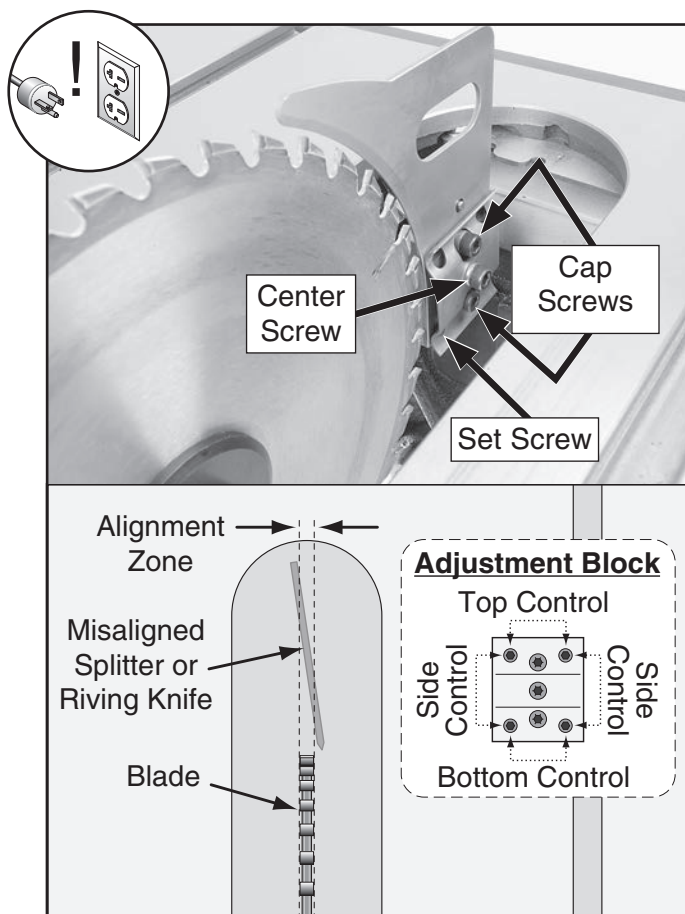

Figure 115. Set screws for adjusting spreader/riving knife position.
- Loosen the two cap screws on the mounting block, then adjust either the top or bottom control set screws or side control set screws (see **Figure 115**) to move it the needed direction.